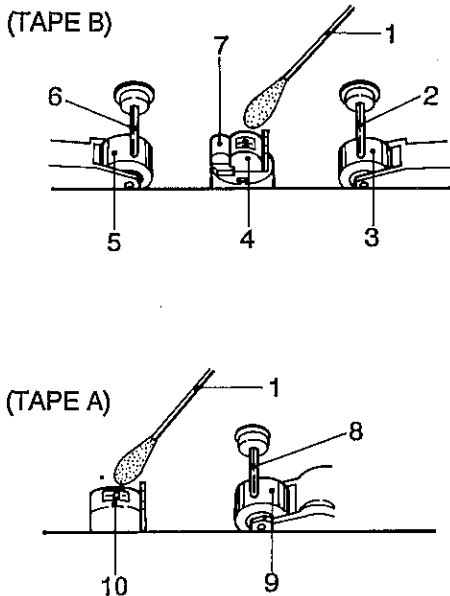

Fig. 22
Moisten a cotton swab (1) with isopropyl alcohol or special head cleaning fluid. Gently rub the face of each head (4, 7, 10) with alcohol. Also clean the capstans (2, 6, 8) and pinch rollers (3, 5, 9). Refer to Fig.22.